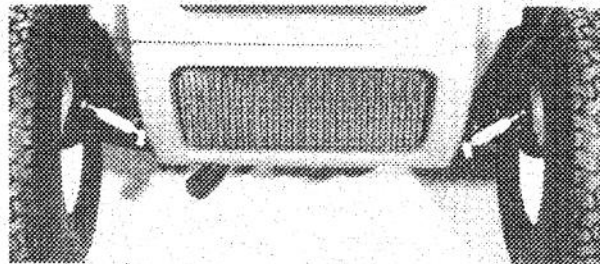

Figure 13
1. Wipe grease fittings on spindles and wheels (Fig. 13, 14) with a clean rag. If there is paint on front of fittings, scrape it off.
2. Lubricate both axle spindles w/No. 2 general purpose grease (Fig. 13). Continue to pump grease until it oozes out the spindle. Wipe up any excess grease.